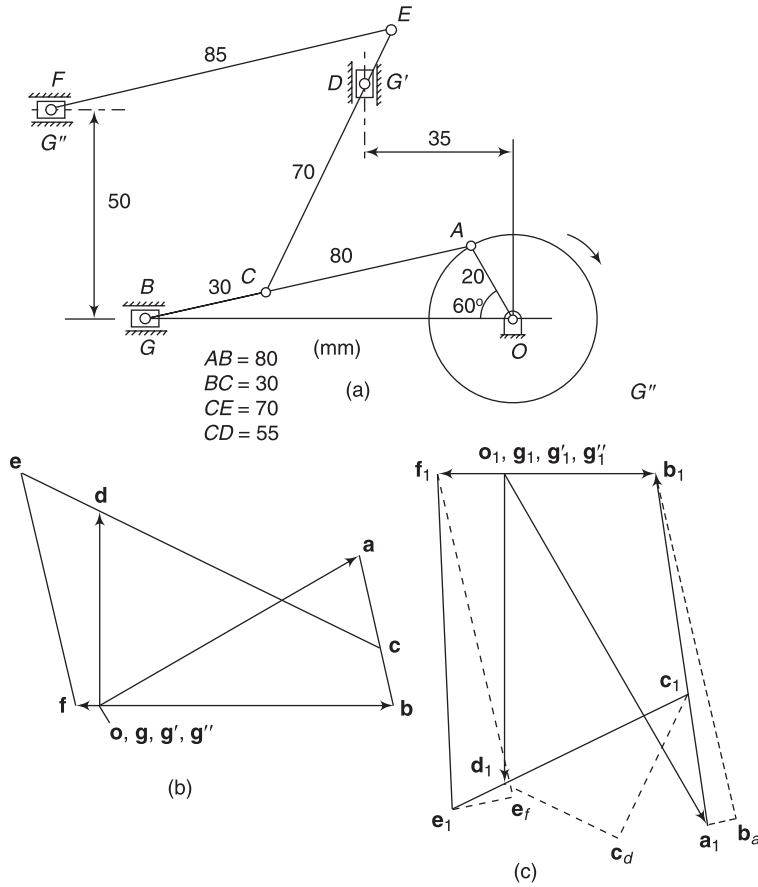

Fig. 3.8
Example 3.4 In the mechanism shown in Fig. 3.8, the crank OA rotates at 210 rpm clockwise. For the given configuration, determine the velocities and accelerations of the sliders B , D and F .
- (i) From the pole point \mathbf{o}_1 take the first vector $\mathbf{o}_1\mathbf{a}_1$ [Fig. 3.8(c)].
- (a) From the pole point \mathbf{o}_1 , take the first vector and add the second vector to it as shown in Fig. 3.8(c).